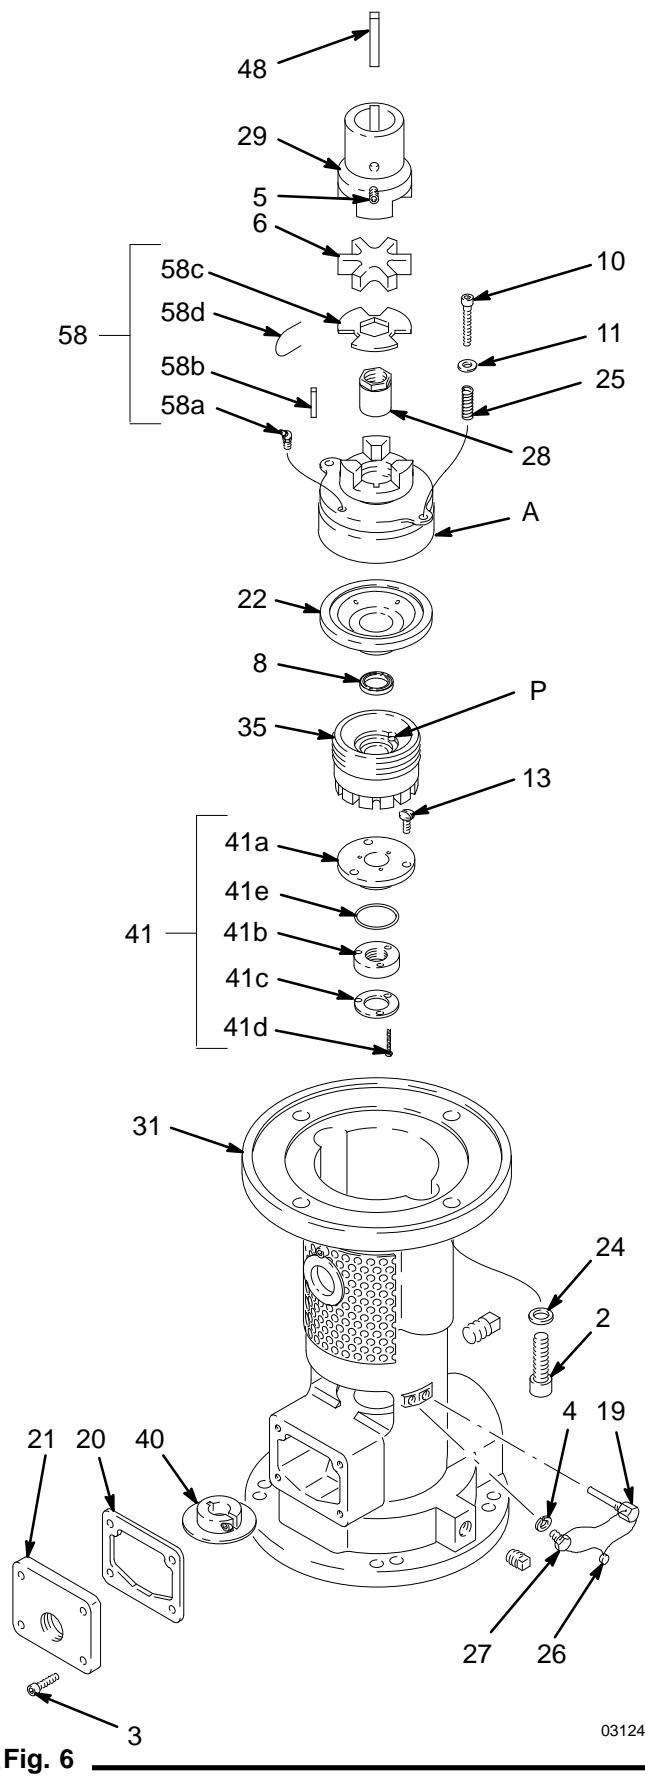

Fig. 6
(Refer to Fig. 6, except where indicated)
21. Install the lock screw (19) through the pump base and into the hole in the adjusting nut (35) without forcing it. Install the plug (27). If necessary, turn the adjusting nut a little, in the same direction as pump rotation, until the plug goes in easily. Tighten the plug securely and attach the lockwire (26) and crimp. See Figs. 6 and 7.